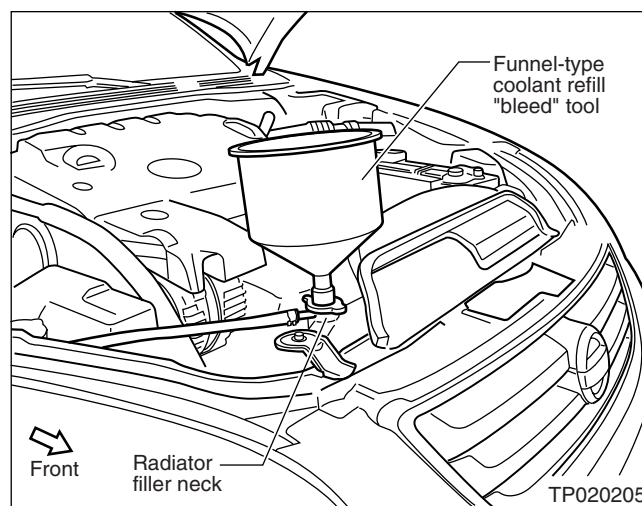

Figure 3
- However, you can use a commercially available funnel-type coolant refill “bleed” tool, such as Lisle® Spill-Free Funnel Tool #285-LIS-22150. See Figure 3.